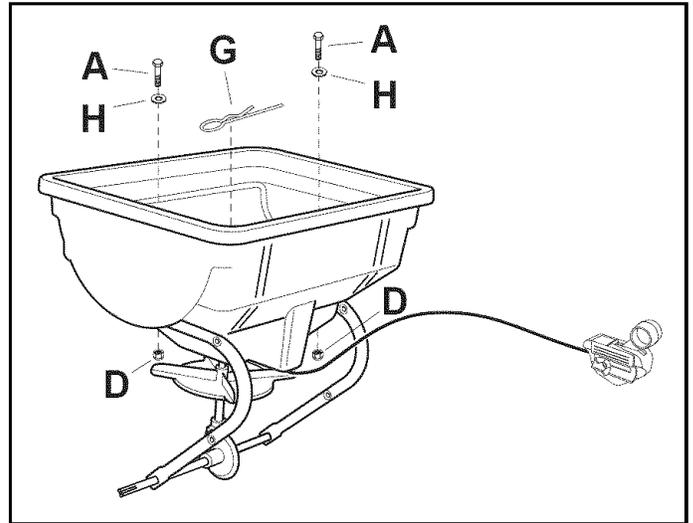

FIGURE 3
- Attach the hopper to the frame tube using two 1/4" x 1-1/2" hex bolts (A), 1/4" washers (H), and 1/4" nylock nuts (D) as shown in figure 3. **Tighten.**
- Insert the agitator hairpin (G) into the hole at the top of the impeller. See figure 3.
- Assemble the Hitch Brackets to the Hitch Control Tube using two 1/4" x 1-3/4" hex bolts (B) and 1/4" nuts (D). **Tighten.** See figure 3.